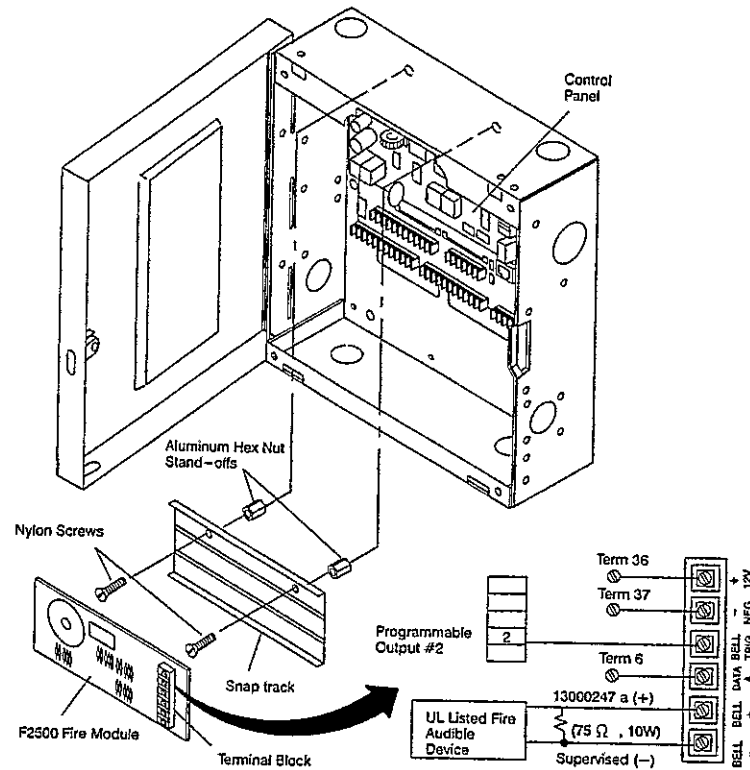

FIGURE 5-1. F2500 Assembly
(Refer to FIGURE 5-1 through FIGURE 5-9)
6. Connect the double-ended RJ cord from jack J2 on the F2500 to jack J6 on the control. Connect the F2500 Terminal Block as shown in FIGURE 5-1.